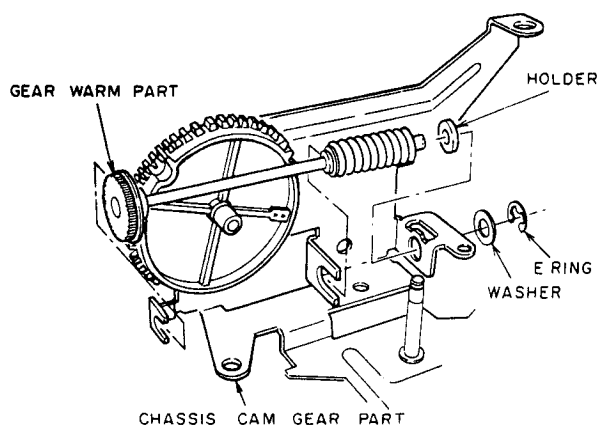

Fig. 4-11
- 2) Install the GEAR WARM PART as shown in Fig. 4-11.